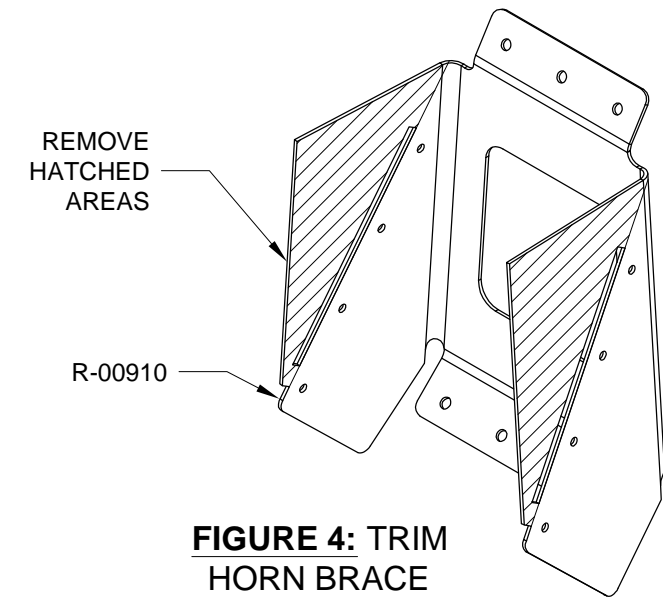

**FIGURE 3: SEPARATE THE
Step 3: Separate the R-00917 Shim and R-00918 Attach Strips by removing the hatched areas as shown in Figure 3. Deburr parts.